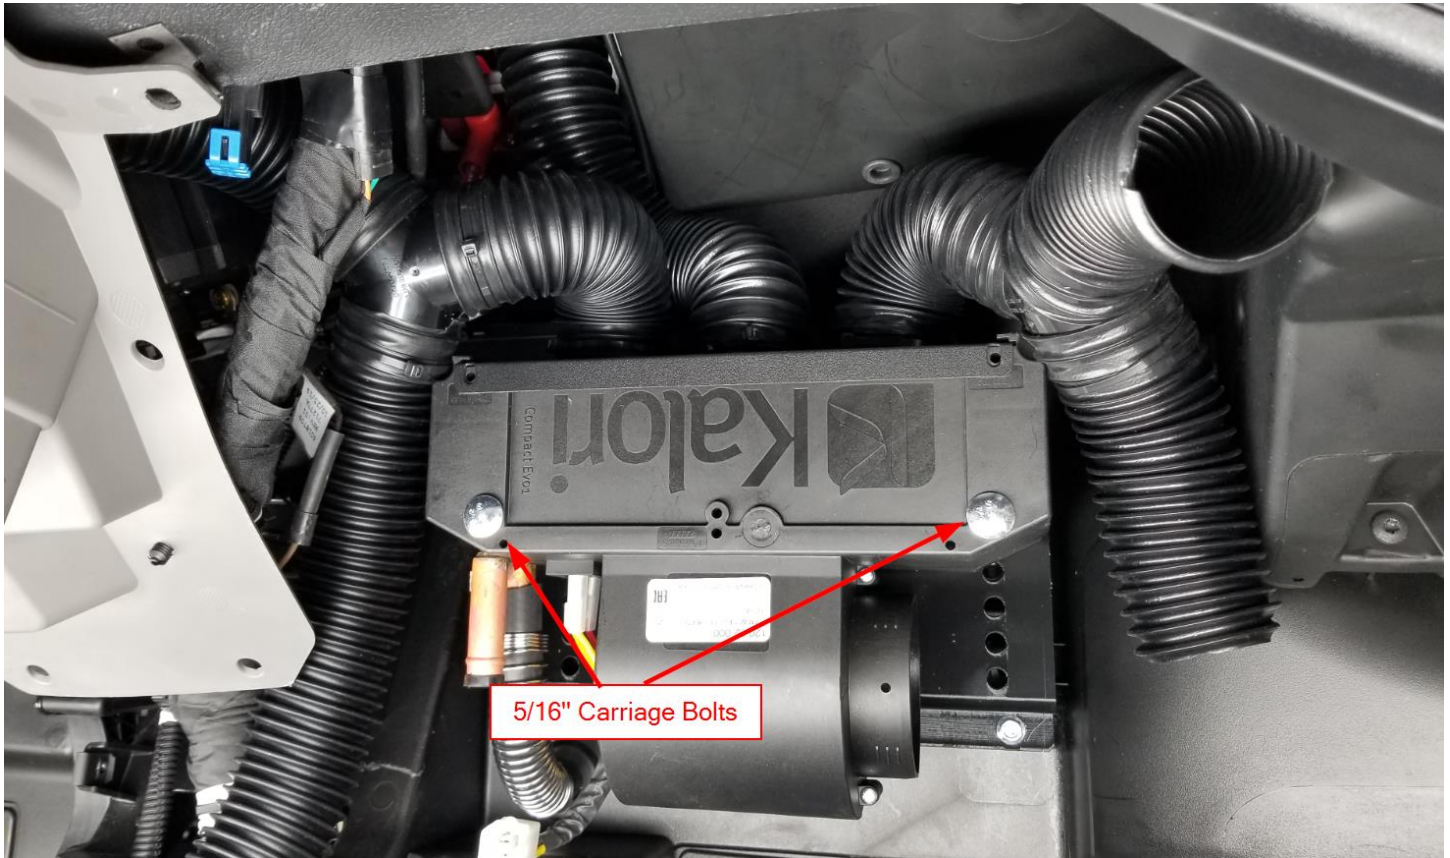

Figure 11
- e. Attach the hose assemblies to the 50mm Ports on the Heater assembly and position the heater against the Main Heater Bracket. Using the 5/16" x 5" Carriage bolts and 5/16" Serrate Flange Nuts, attach the assembly to the Main Heater Bracket as shown in Figure 11.